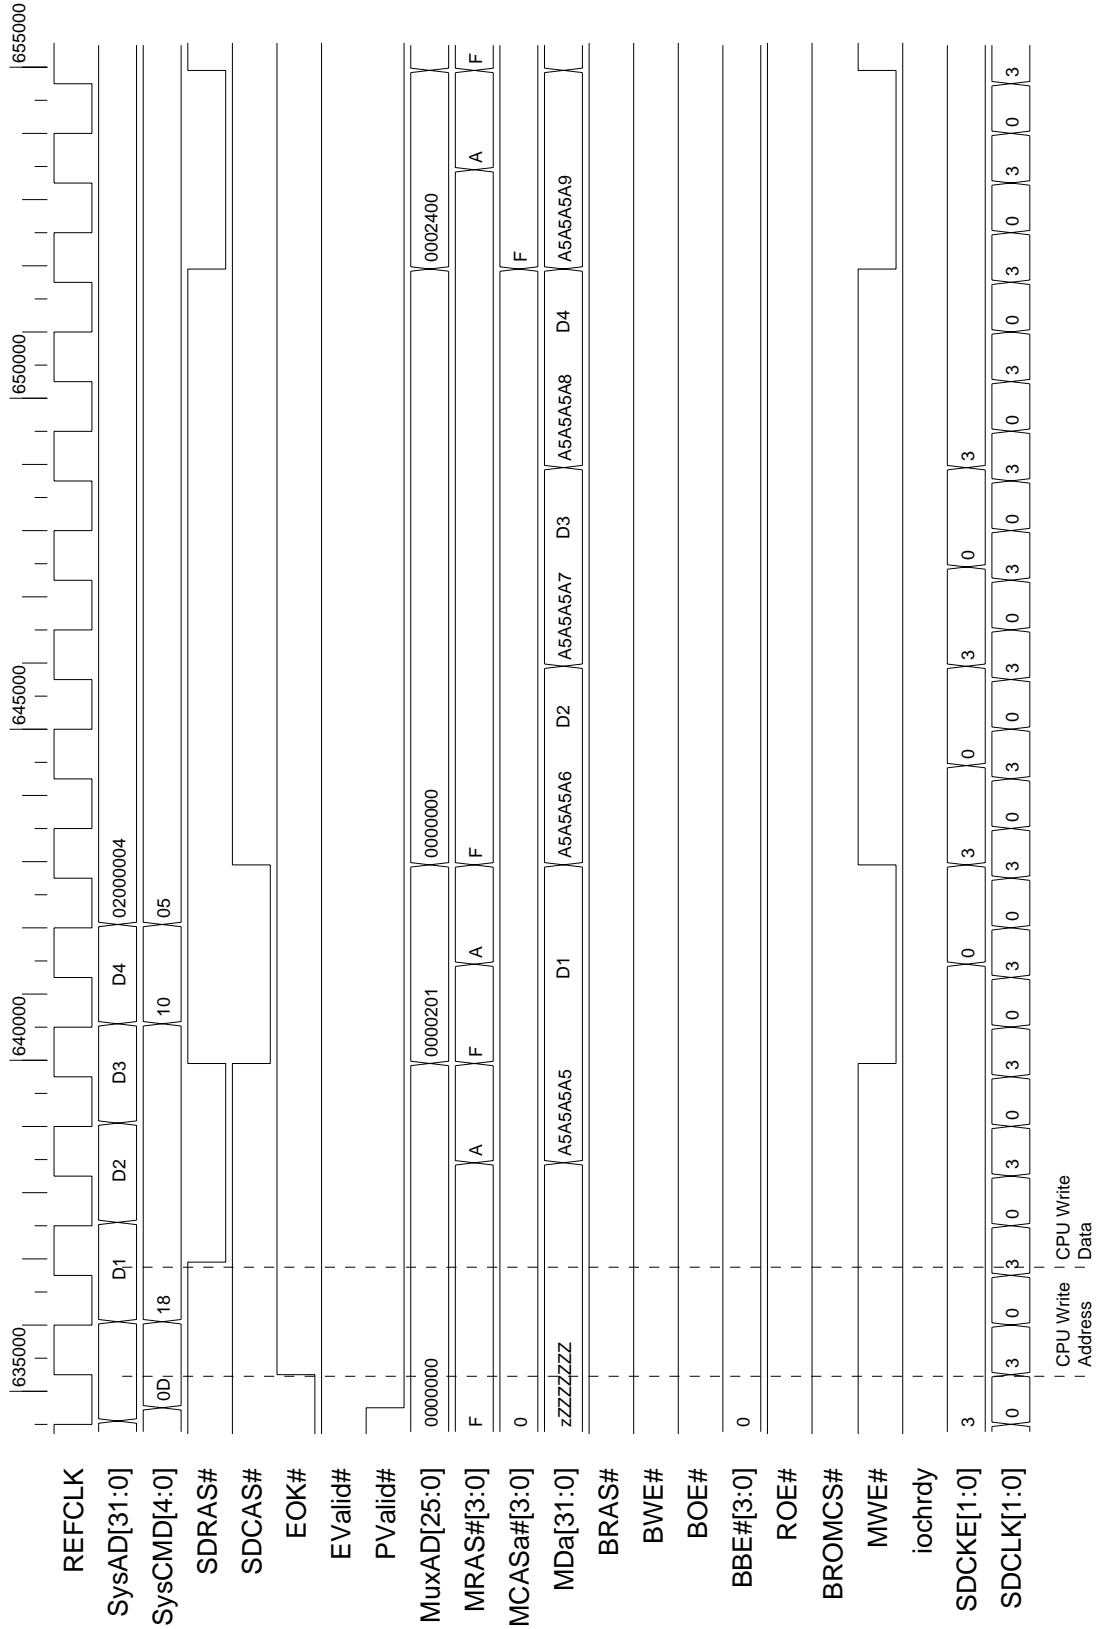

Figure 25. CPU Octet Read from SDRAM SIMM
- Figure 25, CPU Octet Read from SDRAM SIMM, on page 112